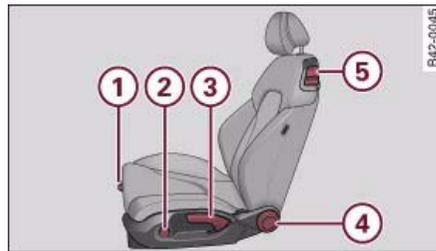

Fig. 62 Adjuster controls on driver's seat
- Lift the lever ① ⇒ fig. 62 and move the seat to the desired position.
- Then release the lever ① and move the seat further until the catch engages.